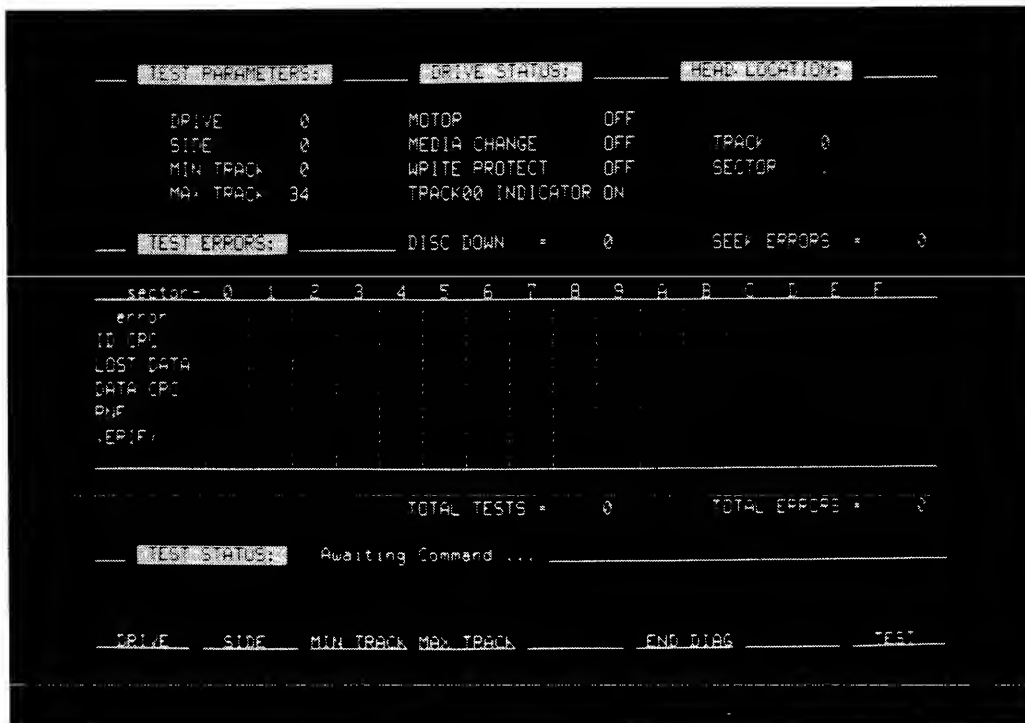

Figure 4-4. Floppy Test Menu First Level
- d. Press the DIAG soft key again. Figure 4-4 should be displayed.